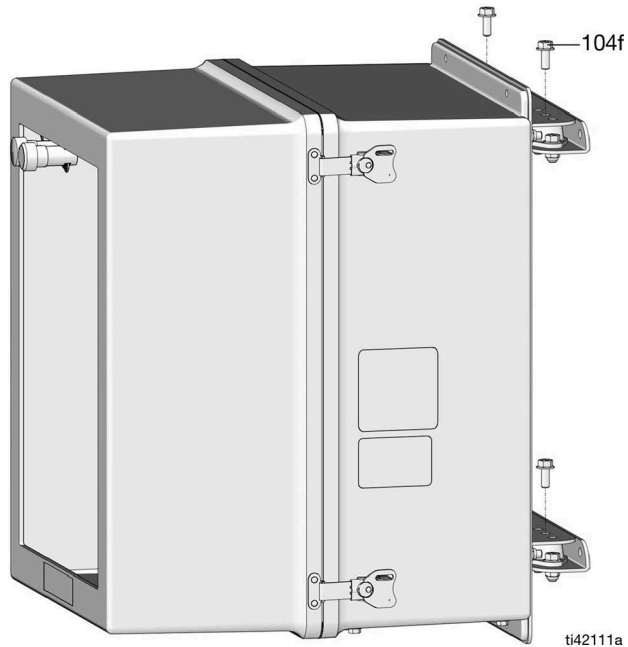

FIG. 4
6. Attach the G5 In A Box to the mounted isolators, using M8-1.25x20 bolts (104f), and torque to 200 in-lb (22.6 N•m) (FIG. 4).